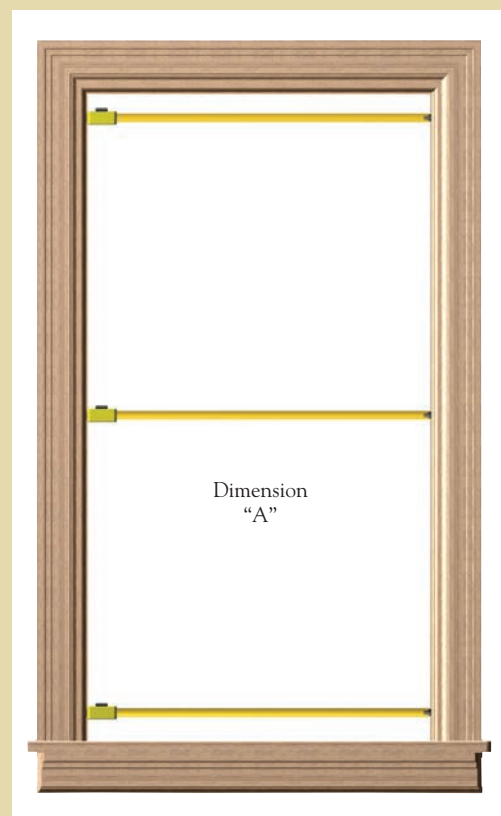

Figure 3 - Interior View
3. To determine the width of the new window, measure from side jamb to side jamb. Measure across the top, middle and bottom to find the smallest dimension (Figure 3). The smallest measurement will be dimension "A".